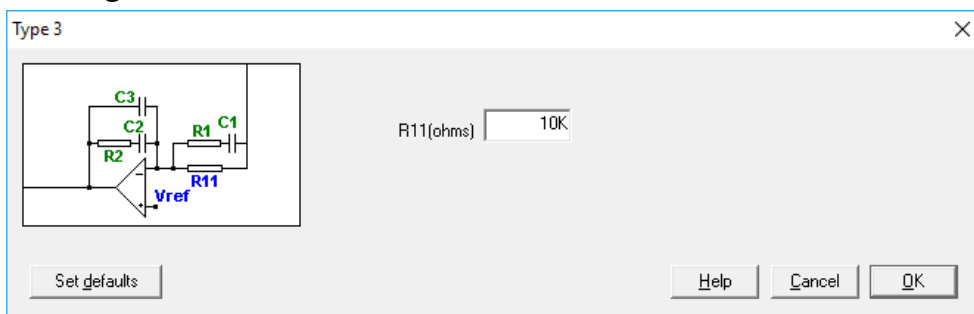

Figure 9: Type 3 compensator parameters
- In order to complete the configuration of the controlled system, the compensator topology has to be selected. Choose a Type 3 and parametrize it as shown in Figure 9.